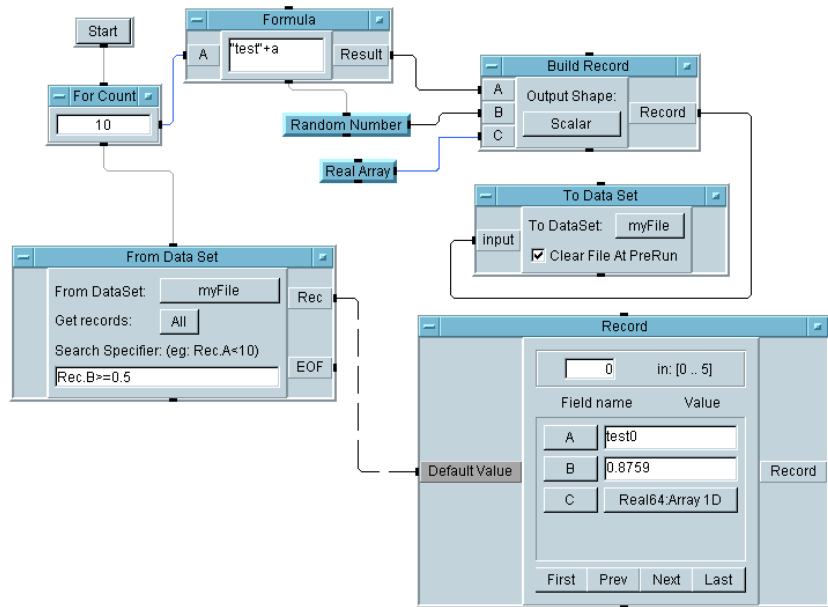

Figure 145 A Search Operation with DataSets
- 3 Add an EOF pin that will fire if no records match the criterion in the expression field. Place the cursor over the data output area of the From Data Set object, and press Ctrl-A. An EOF output pin is added to the From Data Set object, as shown in Figure 145.